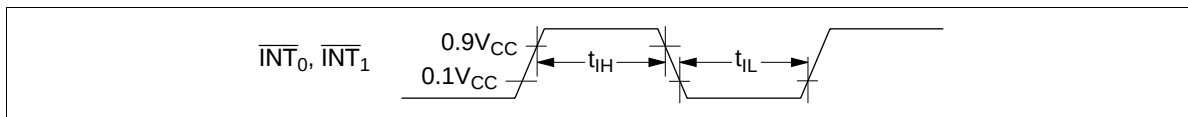

Figure 49 Interrupt Timing
4. See figure 49. The unit  $t_{cyc}$  is applied when the MCU is in standby mode or active mode.
6. See figure 49. The unit  $t_{subcyc}$  is applied when the MCU is in watch mode or subactive mode.